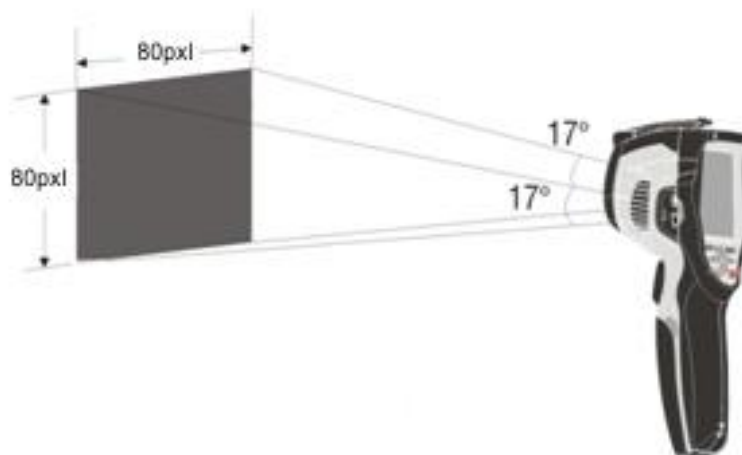

Fig. 35: Representation of the instruments field of view (FOV) for THT45, THT45W
4. For accurate temperature measurements, make sure the surface of the measured object is always bigger than the surface measurable by the instrument, which is given by the instruments field of view (FOV). The instrument THT45W has a field of view of 17° x 17° and a detection vector of 80x80 (6400) pxl (see Fig. 35) (THT45, THT45W) or 160x120 (19200) pxl (THT48)